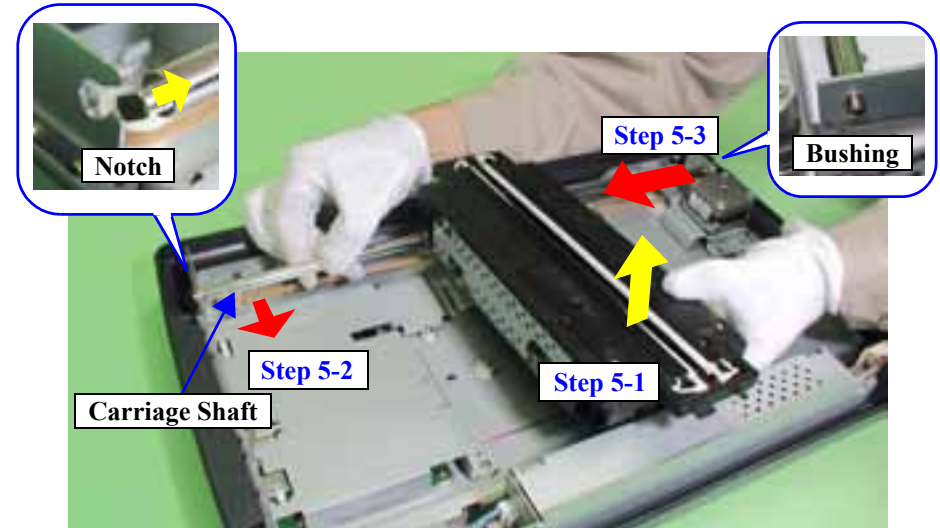

Figure 4-19. Removal of Carriage Shaft (3)
5. While lifting the Carriage Unit as shown in Figure 4-19, remove the rear part of the Carriage Shaft from the notch, and pull the front part out of the Bushing.